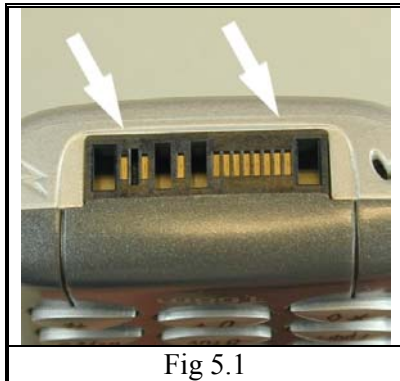

Fig 5.1
- Check that the system connector (*Fig.5.1*) not is incorrectly soldered, mechanically damaged, dirty or oxidised.